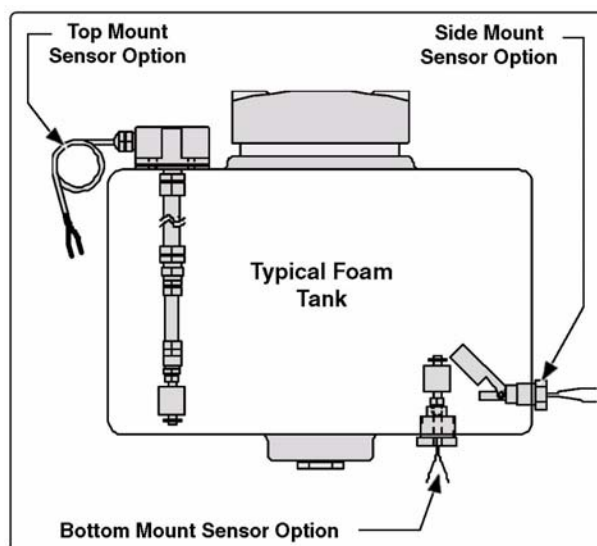

Figure 3-38: Low Level Sensor Mounting Options
The foam low tank level sensor(s) must be installed and wired to monitor the foam concentrate level. (See Figure 3-38: “Low Level Sensor Mounting Options.”)
3. Coat the threads of the sensor with a suitable sealant and insert into tank fitting. Tighten sensor making sure the float is on the top of the sensor. (See Figure 3-38: "Low Level Sensor Mounting Options" on page 93.)
The bottom mount foam tank low level sensor must be mounted into the bottom of the foam tank. (See Figure 3-38: “Low Level Sensor Mounting Options” on page 93.)
2. Mount the sensor in the bottom of the foam tank in an upright position. Use a suitable sealant to prevent concentrate leakage. (See Figure 3-38: “Low Level Sensor Mounting Options” on page 93.)